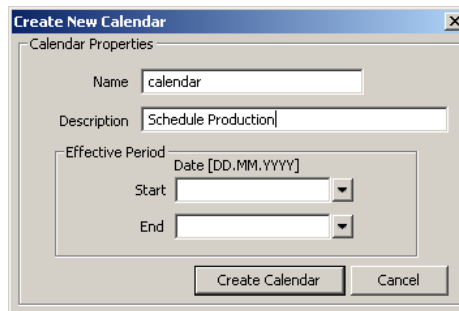

Figure 141: Create New Calendar dialog box.
3. In the Create New Calendar dialog box (as shown in Figure 141) enter Name and Description of the calendar. Note, that a BACnet calendar does not have the **Effective Period** settings.